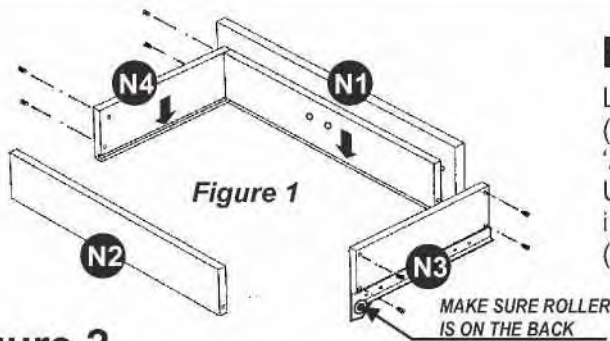

Figure 1
Install the Doors (K) and (L), using Spring Pin Hinge. (See figure 1)
(Figure 1)
Place the selected 'Top' on the unit, attach it to the body with the Steel Plate Connectors, Flat Washers, Spring Washers and Head Cap Bolts. (See figure 1)